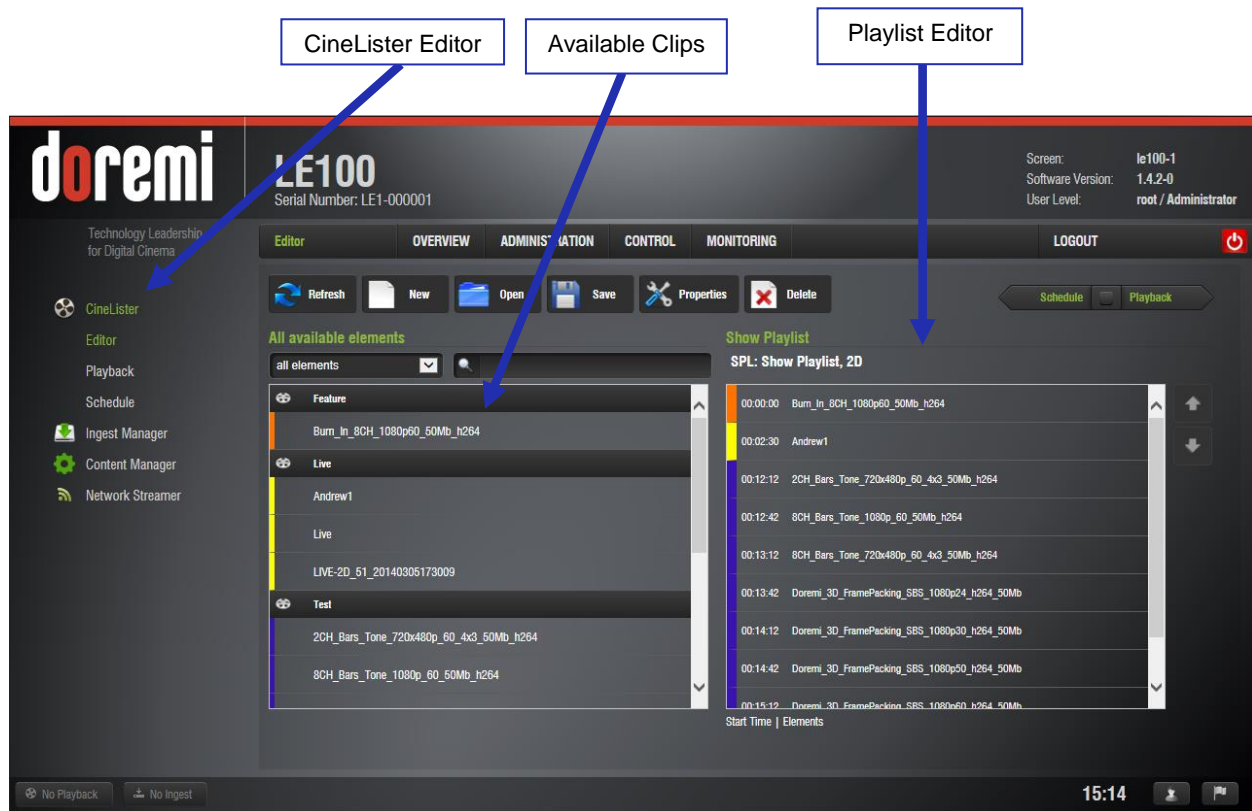

Figure 21: CineLister Editor
- Click on the CineLister link followed by the Editor link (see Figure 21).